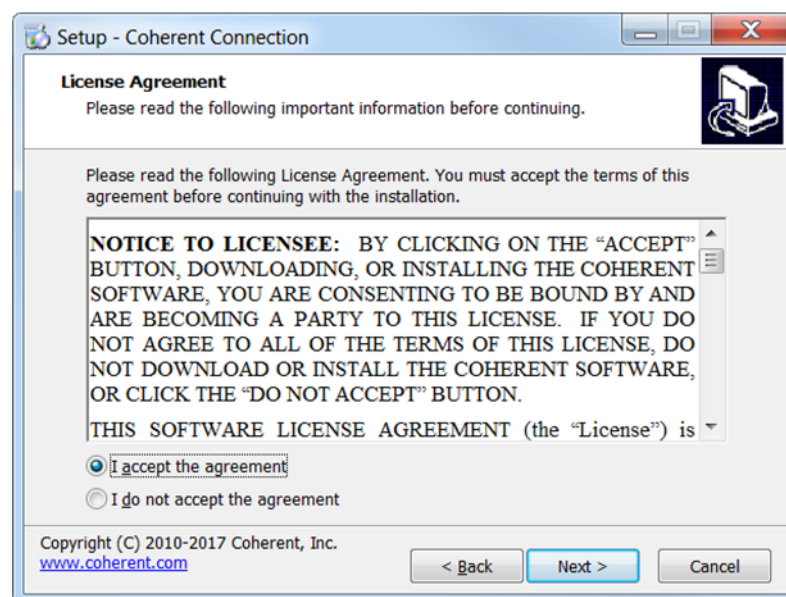

Figure 4-4. Coherent Connection 4 License Agreement
6. Read the instructions, then click Next. The License Agreement shown in Figure 4-4 is displayed.